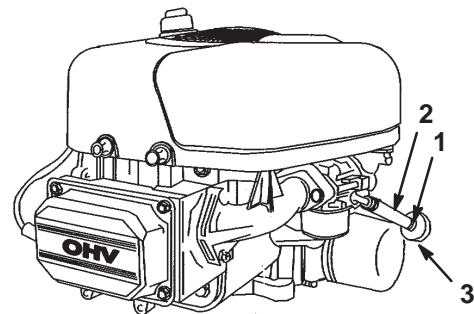

Figure 28
6. Open the hood and locate the fuel filter (Fig. 28).
7. Squeeze the ends of the hose clamp together and slide it up the fuel line toward the fuel tank (Fig. 28).
8. Pull the fuel line off of the fuel filter (Fig. 28) and allow gasoline to drain into a fuel container or a drain pan.
Replace the fuel filter after every 100 operating hours or yearly, whichever occurs first. The best time to replace the fuel filter (Fig. 28) is when the fuel tank is empty. Never install a dirty fuel filter after it has been removed from the fuel line.
6. Squeeze the ends of the hose clamps together and slide them away from the fuel filter (Fig. 28).